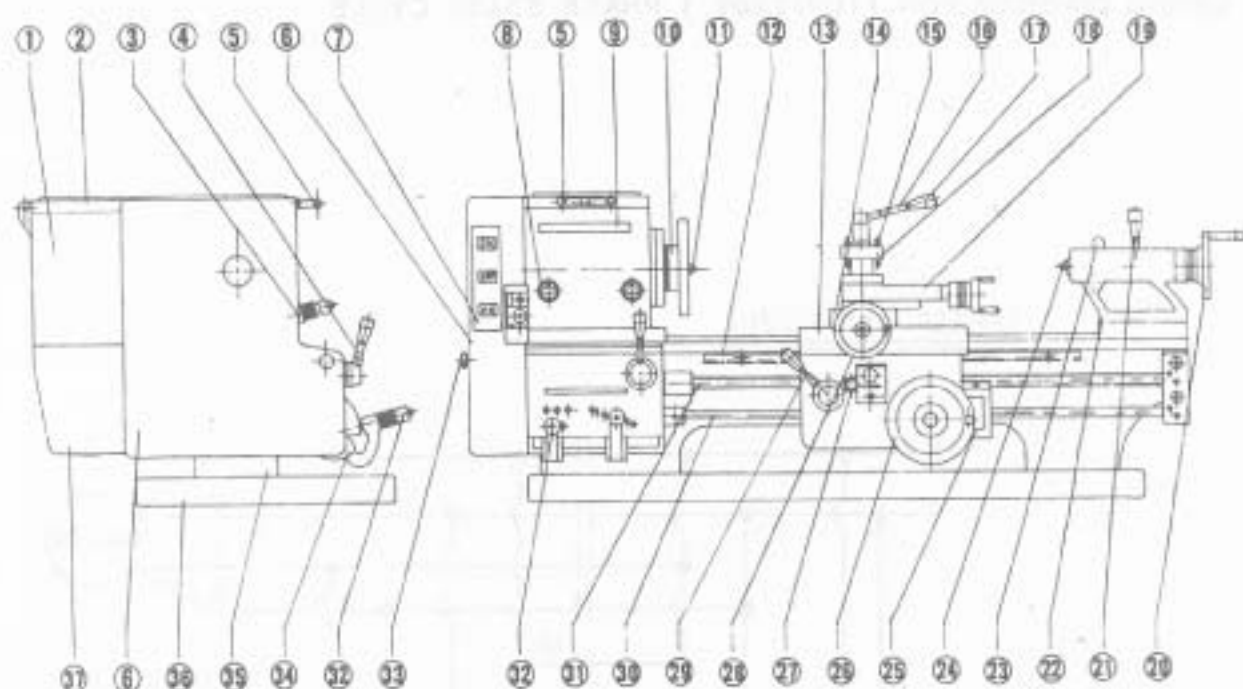

FIG. 1
3. Pull the lever (3) (Fig. 1.) to mesh the gears.